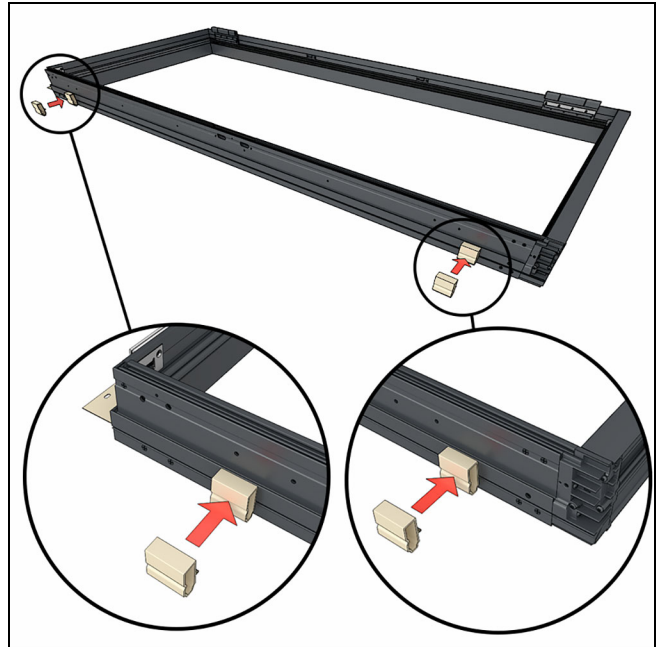

Figure 216
2. Temporarily attach mull filler blocks about 6" from frame ends of the first unit you will install. The blocks will barb into the nail fin kerf as shown in Figure 216.